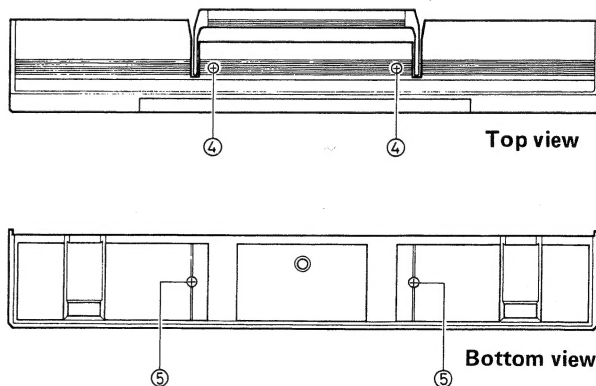

Fig. 6
B. Chassis (with cassette mechanical unit) (Fig. 6, 7)
1. Remove 2 screws ④ — SDSP3008RS (upper side on the front cabinet) and 2 screws ⑤ — SBSF3012R (lower side on the front cabinet).
2. Remove 7 screws ⑥ — SBSF3014C, and a screw — SBSF3030V.
3. Remove 8 connectors ⑦ ~ ⑨.